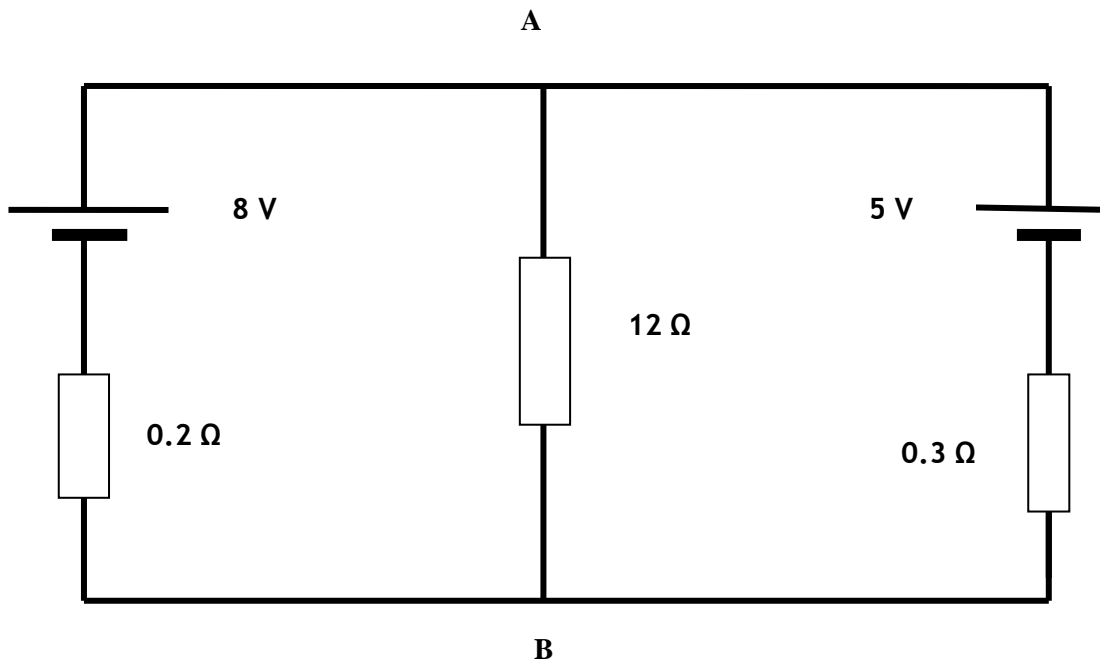

Fig Q1
1. (a) For the circuit shown in Fig Q1, calculate EACH of the following:
- (i) the current through the $12\ \Omega$ resistor; (8)
- (ii) the p.d. across EACH resistor. (3)
- (b) Calculate the voltage V_{AB} , if the $12\ \Omega$ resistor is now removed from the circuit. (5)